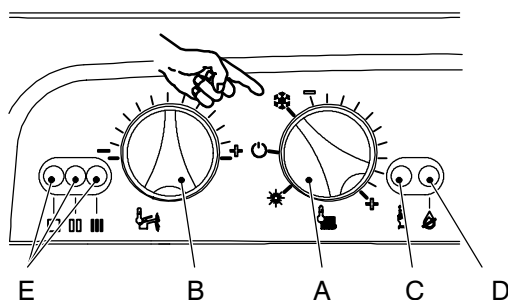

Fig. 45
- 10 Turn the boiler OFF and ON positioning the function selector knob A as indicated in Fig. 45